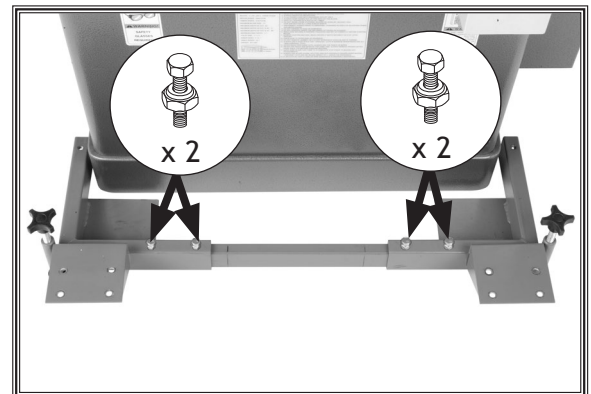

Figure 19. Rail secured to brackets.
6. Secure each end of the rails to the corner brackets with (2) M8-1.25 x 25 hex bolts and 8mm lock nuts, as shown in Figure 19.